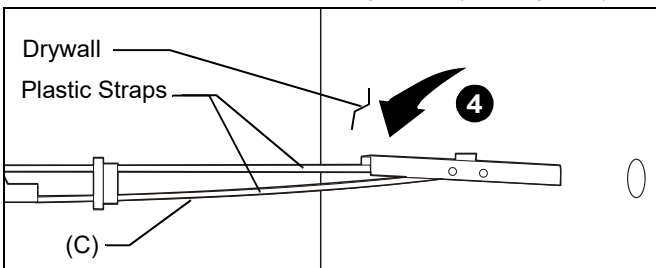

Figure 2
4. Hold metal channel on anchor (C) flat alongside plastic straps and slide channel through hole. (See Figure 2)